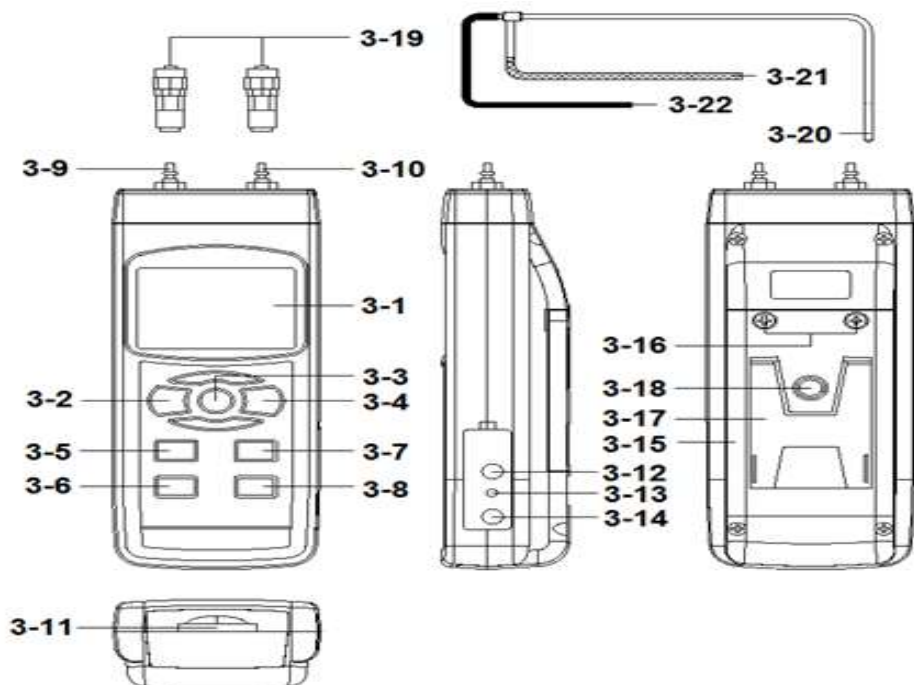

Fig. 1
- 1) Power ON the meter by pressing and holding the " Power Button " (3-2, Fig. 1) for at least 1.5 seconds .
* *Pressing the " Power Button " (3-2, Fig. 1) continuously and > 1.5 seconds again will turn off the meter.*
- 2) pressing and holding the " Function Button " (3-7, Fig. 1) to Select to Air velocity Function.
- 3) pressing and holding the " Unit Button " (3-5, Fig. 1) to Select the desired Air velocity units (m/s, Ft/min, Km/h, Knot, Mile/h)
pressing and holding the the " ▲ Button " (3-5, Fig. 1) and " ▼ Button " (3-6, Fig. 1) for at least 1.5 seconds to the display reading will show zero .
- 5) Pitot tube, sensing soft tube (3-22, Fig. 1) Install to P1 Input Socket (3-9, Fig. 1), and sensing soft tube (3-21, Fig. 1) Install to P2 Input Socket (3-10, Fig. 1)
- 1) Power ON the meter by pressing and holding the " Power Button " (3-2, Fig. 1)for at least 1.5 seconds .
** Pressing the " Power Button " (3-2, Fig. 1) continuously and > 1.5 seconds again will turn off the meter.*
- 2) pressing and holding the " Function Button " (3-7, Fig. 1) to Select to manometer Function.
- 3) pressing and holding the " Unit Button " (3-5, Fig. 1) to Select the desired manometer units (mbar, , Kg/cm² , mm Hg meter H₂O, Atmosphere, psi , inch Hg , inch H₂O, hPA , kPA)
- 5) Install the measuring pipe to " Plug/quick coupler " (3-19, Fig. 1).
Connecting the pipe along the " Plug " (3-19, Fig. 1) to
- a. " P1 input socket " (3-9, Fig. 1) only
- b. " P2 input socket " (3-10, Fig. 1) only
During the measurement, press the " Hold Button " (3-3, Fig. 1) once will hold the measured value & the LCD will display a " HOLD " symbol.
- 1) The data record function records the maximum and minimum readings. Press the " REC Button " (3-4, Fig. 1) once to start the Data Record function and there will be a " REC " symbol on the display.
- a) Press the " REC Button " (3-4, Fig. 1) once, the " REC MAX " symbol along with the maximum value will appear on the display.
- b) Press the " REC Button " (3-4, Fig. 1) again, the " REC MIN " symbol along with the minimum value will appear on the display.
After power ON, the " LCD Backlight " will light automatically. During the measurement, press the " Backlight Button " (3-2, Fig. 1) once will turn OFF the " LCD Backlight ".
insert the SD card into the "SD card Socket" (3-11, Fig. 1).The front
Press the " LOG Button (3-8, Fig. 1) > 1.5 seconds